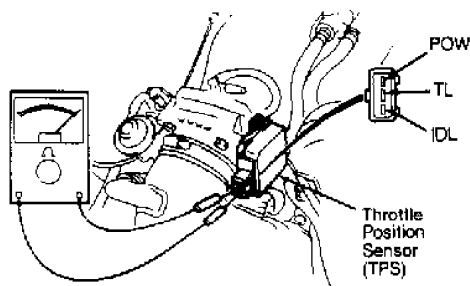

Fig. 15: Miata, Protege & 323 W/ M/T TPS Connector Terminal ID
- 2) Connect ohmmeter between specified terminals of TPS connector. See Fig. 15. If continuity is not as specified, adjust TPS. See ADJUSTMENT.
terminals IDL and TL of TPS connector. See Fig. 15. Insert a .016" (.41 mm) feeler gauge between throttle lever and throttle stop screw.